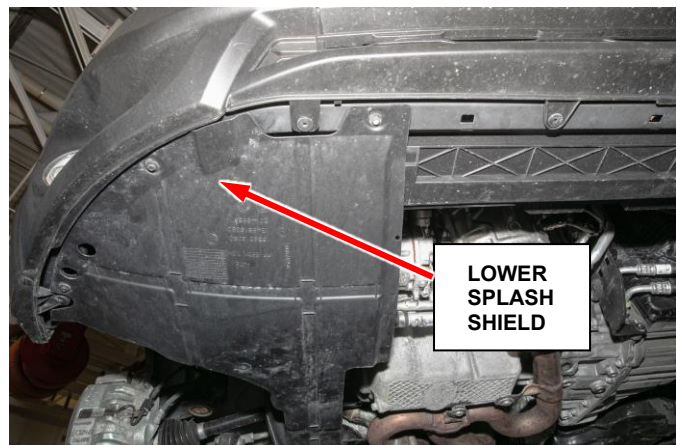

Figure 1 – Lower Splash Shield
3. Remove the right lower splash shield (Figure 1).